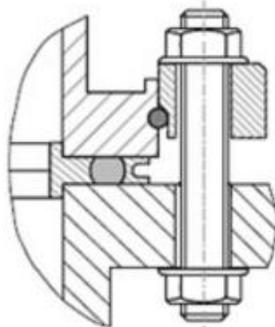

Figure 6.7 Connection of ISO K flange and ISO F flange
(4) Use appropriate number of hexagonal bolts (or stud + nut) to fix turbomolecular pump as shown in figure 6.7.